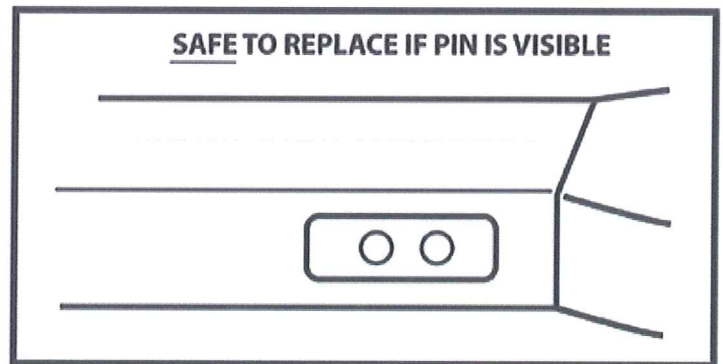

Figure 2
- a. If the "locking pin" is still in place, the thumb release can be re secured. (Figure 2)